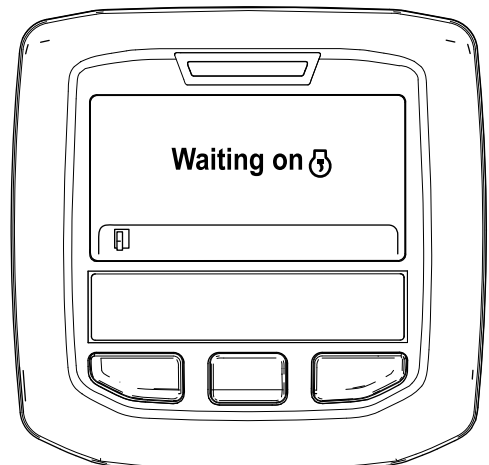

Figure 50
- B. The "Waiting on [engine icon]" message displays (Figure 50).